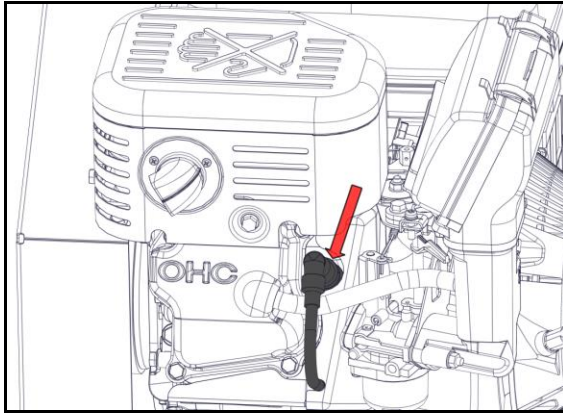

Figure 9 – Connecting spark plug wire
- 1) Connect the spark plug wire (Figure 9).